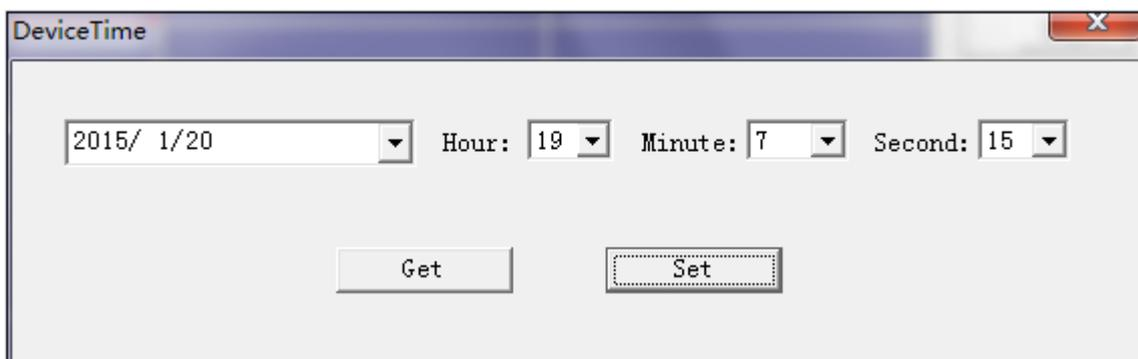

Figure 2- 4
Step 2. Click Control&Search, system shows current SDK system time, see Figure 2- 4.